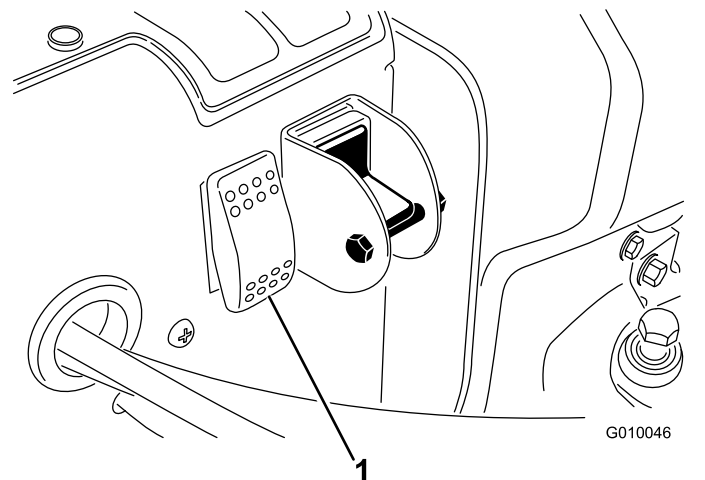

Figure 30
2. Press the system reset switch (Figure 30).